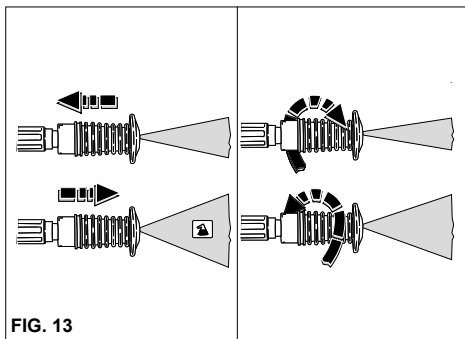

FIG. 13
USING THE MULTIREG ADJUSTABLE NOZZLE (fig. 13)
- When the water cleaner is not used, close the safety device on the handle.(fig. 13).
- 2) Start the cleaner, activate the detergent suction control on the lance (fig. 13) and spray the surface to be washed, working from the bottom upwards. Leave to work for a few minutes..